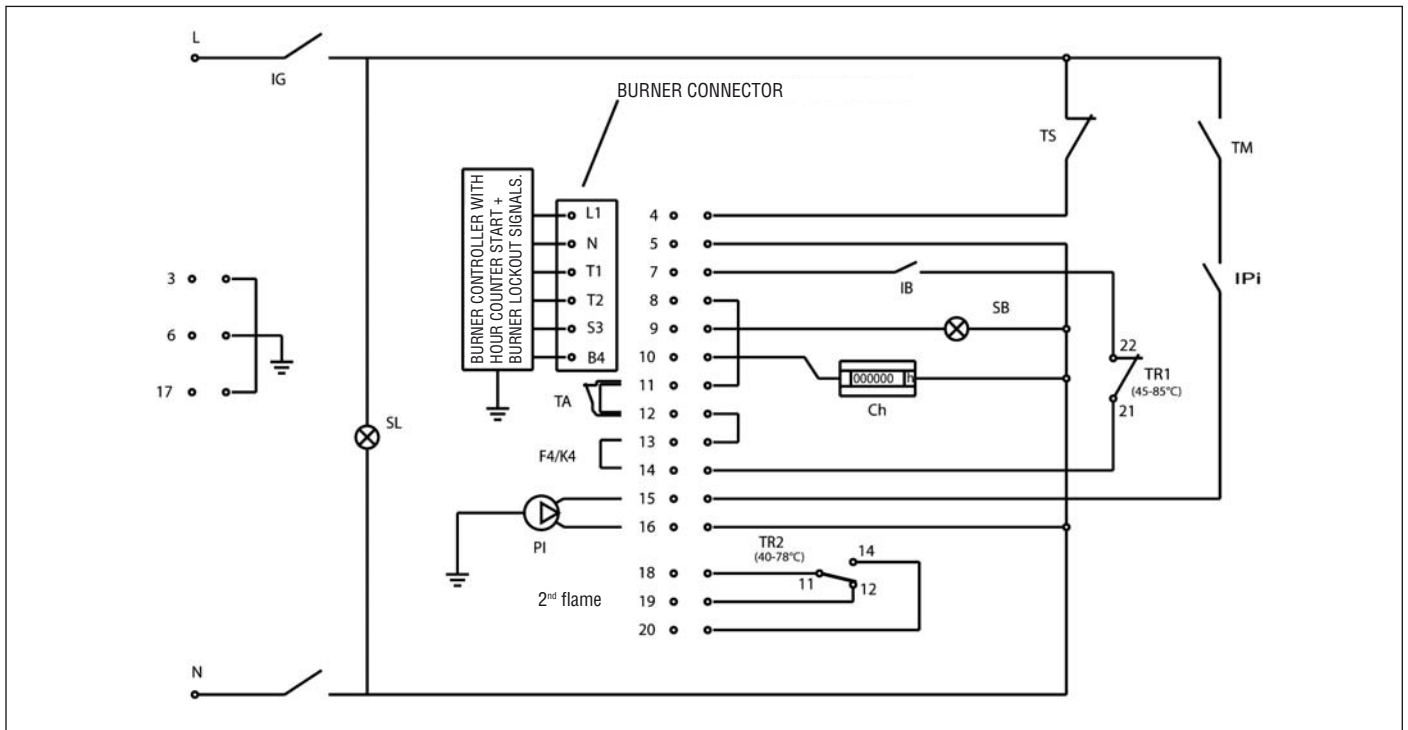

Fig. 17
7.2 Single-phase burner and pump wiring diagram (Fig. 17)
10.4 Cleaning the boiler (Fig. 17)